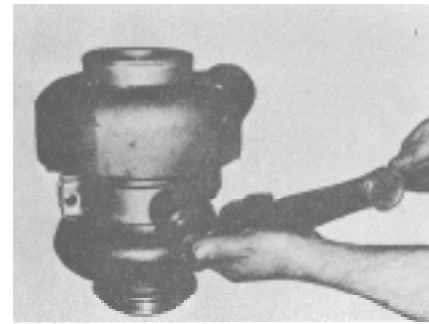

Fig. 10-39, T-425. Torquing oil drain connection
1. Wrap fittings with Teflon tape (a minimum of 5 threads must be coated with tape) and install in bearing housing; tighten to torque listed in Specifications. Fig. 10-39.